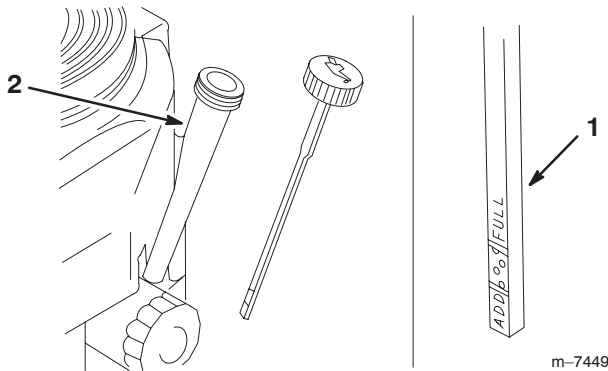

Figure 33
4. Clean around the oil dipstick (Fig. 33) so that dirt cannot fall into the filler hole and damage the engine.
5. Unscrew the oil dipstick and wipe the end clean (Fig. 33).
6. Slide the oil dipstick fully into the filler tube, **but do not thread it onto the tube** (Fig. 33).
10. Slowly pour approximately 80% of the specified oil (refer to Service Interval/Specification on page 29) into the filler cap (Fig. 33).